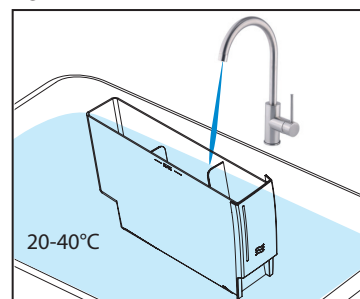

Fig.3
3. Rinse the water tank thoroughly with clean water, 20-40°C. (See Fig.3)